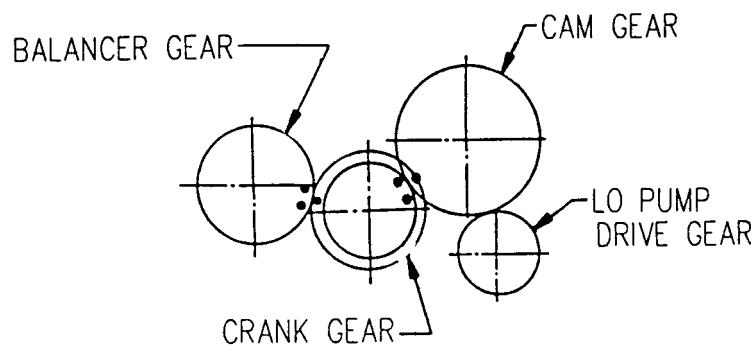

Figure 5-34. Aligning Timing Marks
- (5) Install crankshaft in cylinder block.
- (6) Install retaining plate with bolt.
- (7) Install flywheel, refer to paragraph 5.21.c.
- (8) Install piston and connecting rod assembly, refer to paragraph 5.20.e.
- (9) Install balancer shaft, refer to paragraph 5.19.c.
- (10) Install camshaft, refer to paragraph 5.18.c.
- (11) Align timing marks on gears (Figure 5-34).
- (12) Install cylinder head assembly, refer to paragraph 5.13.c.
- (13) Install crankcase cover, refer to paragraph 5.16.c.